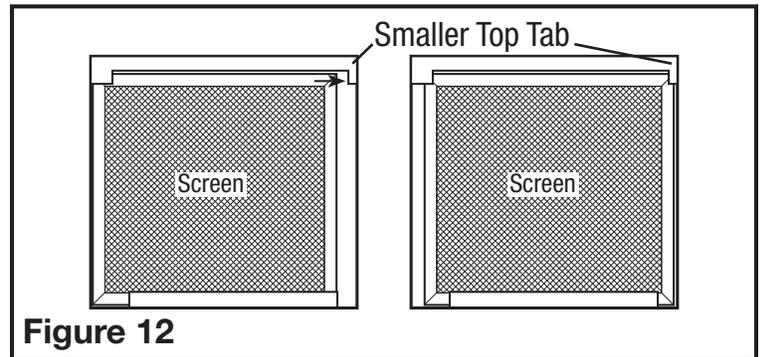

Figure 12
- Slide the screen back over towards the smaller top tab making sure the screen fits behind the tab (**Figure 12**).
- Confirm that the screen is being held in place by both top tabs (**Figure 12**).